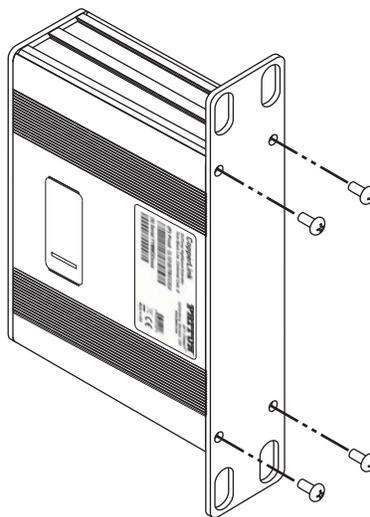

Figure 11. Installing the mounting plate
- Install the mounting plate onto the CL1200E enclosure using the screws removed in step 1 as shown in figure 11.